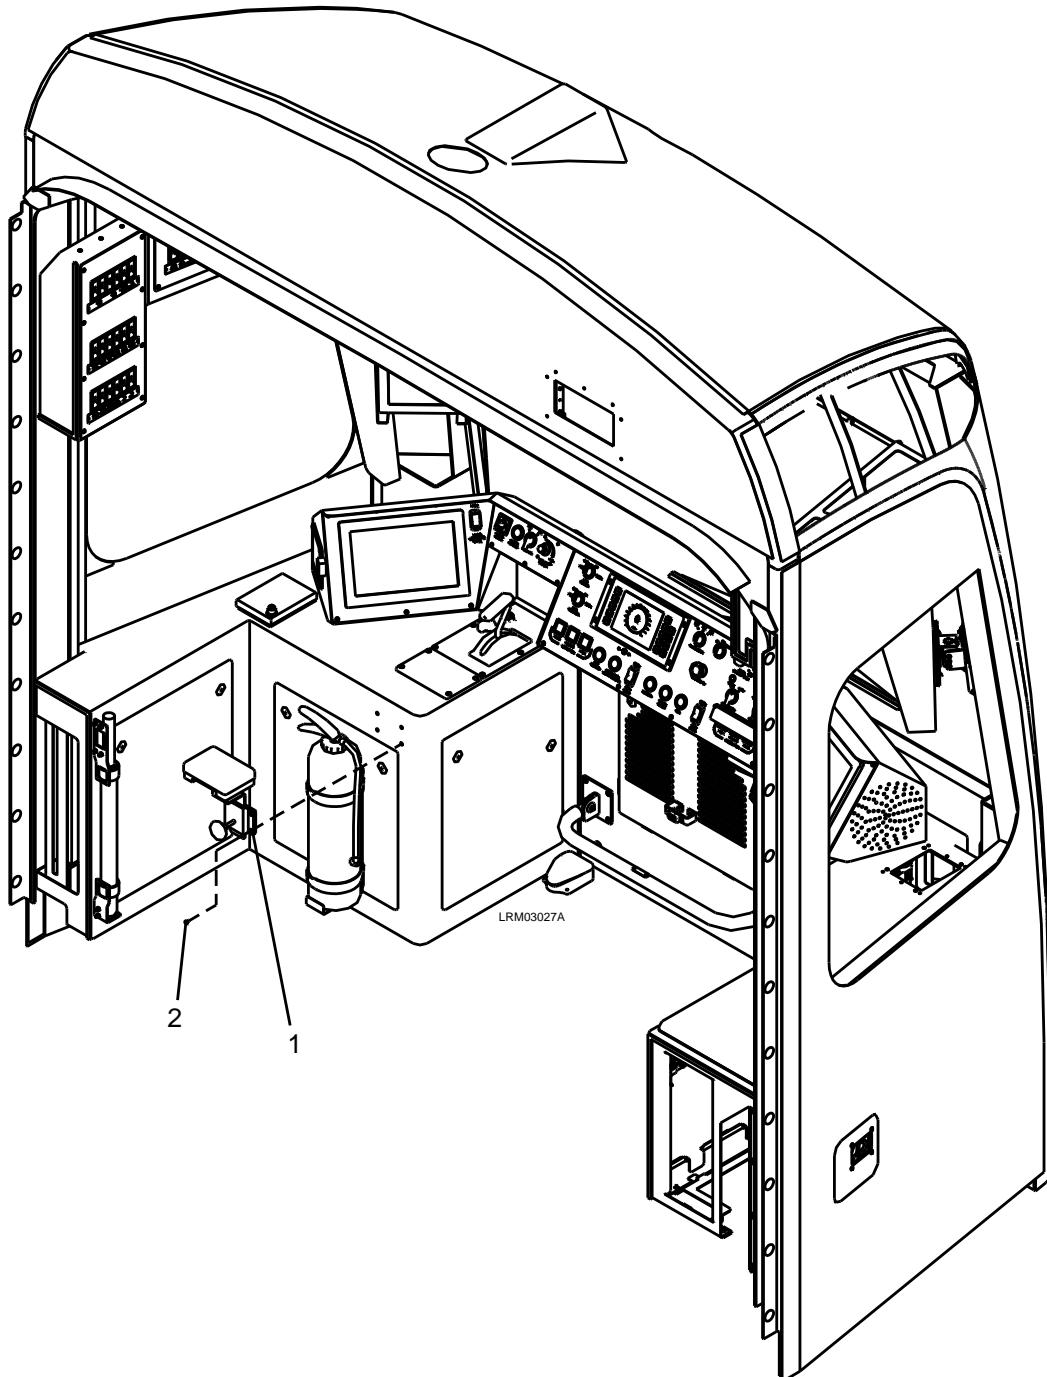

Figure 7-23: Arm Rest
1. Remove the four M4 x 10 screws (2). See Figure 7-23.
2. Remove the Arm Rest (1).